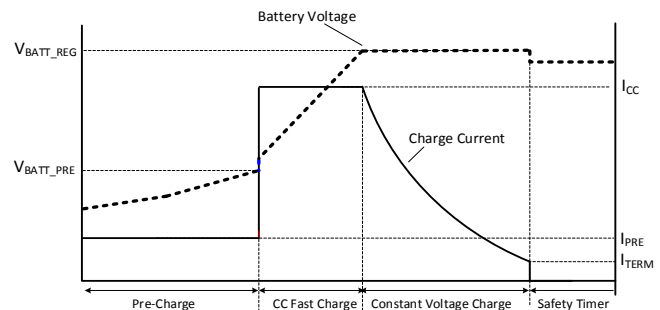

Figure 3: Battery Charge Profile
The IC checks the battery voltage (V_{BATT}) to provide three main charging phases: pre-charge, constant-current (CC) charge, and constant-voltage (CV) charge (see Figure 3).